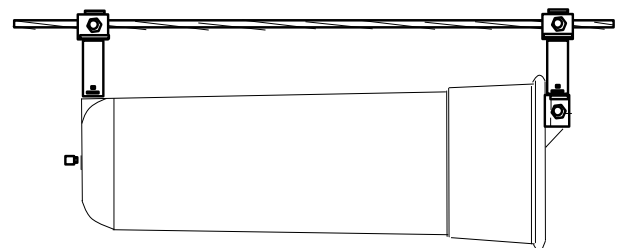

Figure 13
19.01 Using the Universal Offset Hanger (OHK) bracket, the installed closure may be installed as shown in **Figure 13 – Aerial Mounting of LG250**.